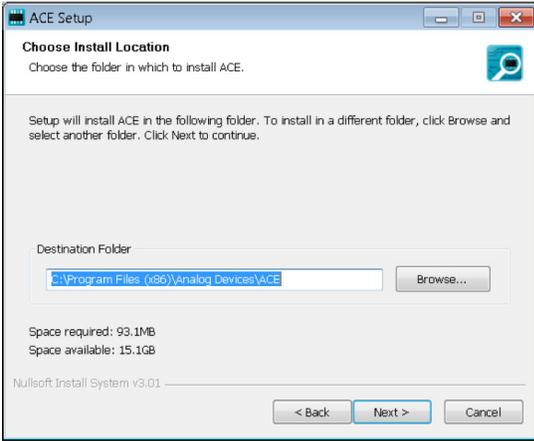

Figure 11. Choose Installation Location
6. Click **Browse...** to choose the installation location and then click **Next >** (see Figure 11).